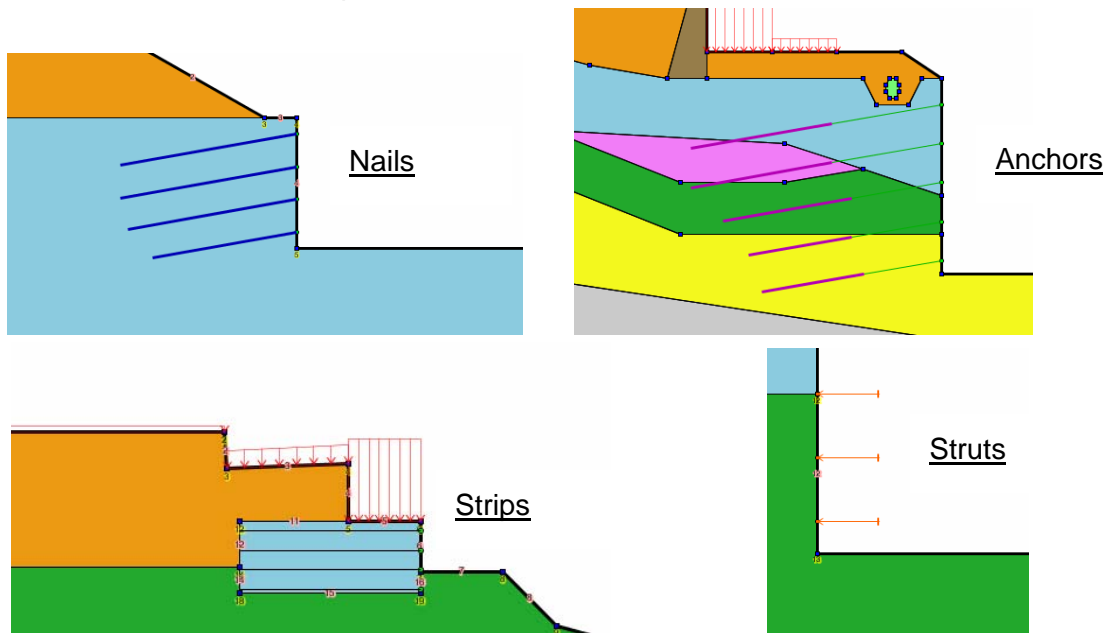

Figure 39: graphical display of reinforcements
- *Angle/horizontal* (°): default value is zero. It is positive in the case illustrated on Figure 39 (trigonometrical direction);